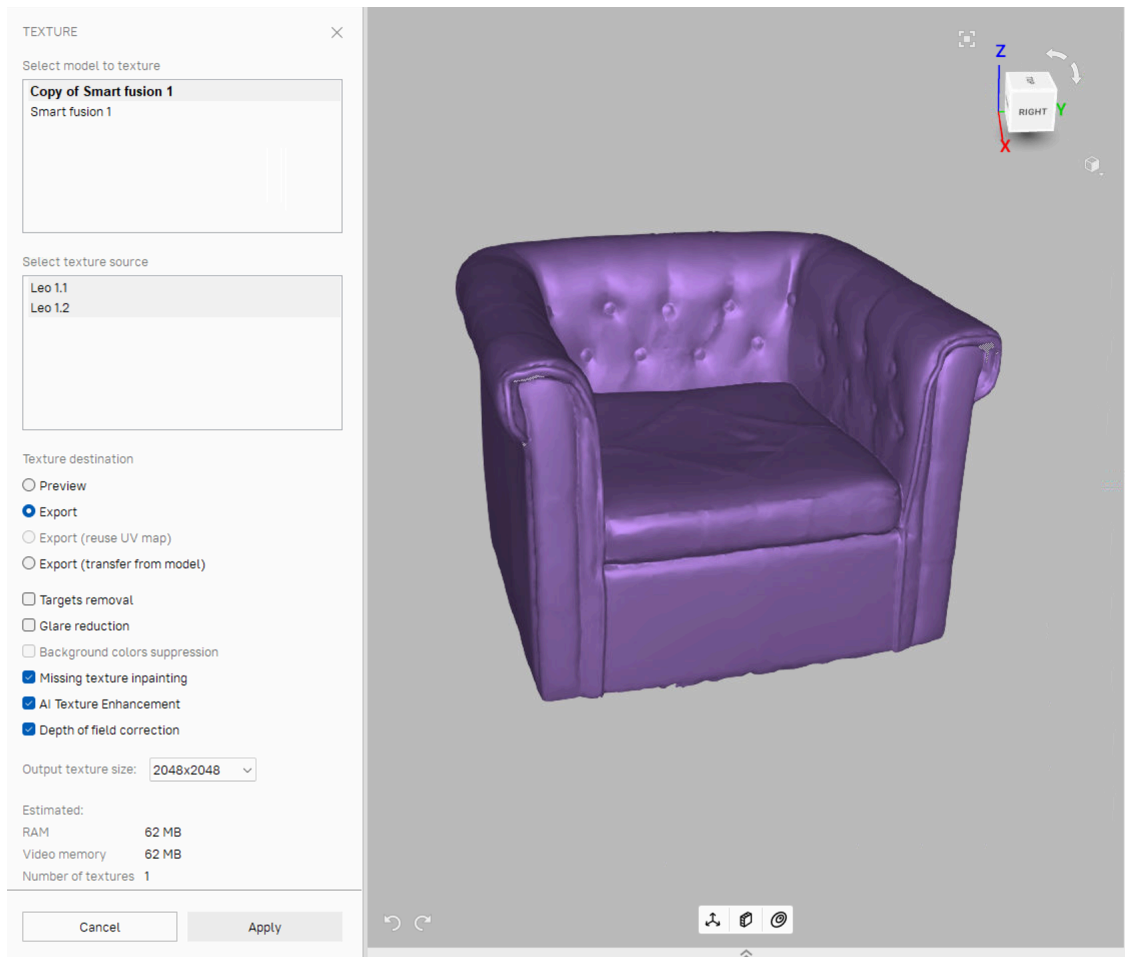

Figure 162: Choosing a texture-application method and adjusting its parameters.
2. Choose a model from the first list (see Figure 162); Artec Studio will apply the textures to this model.